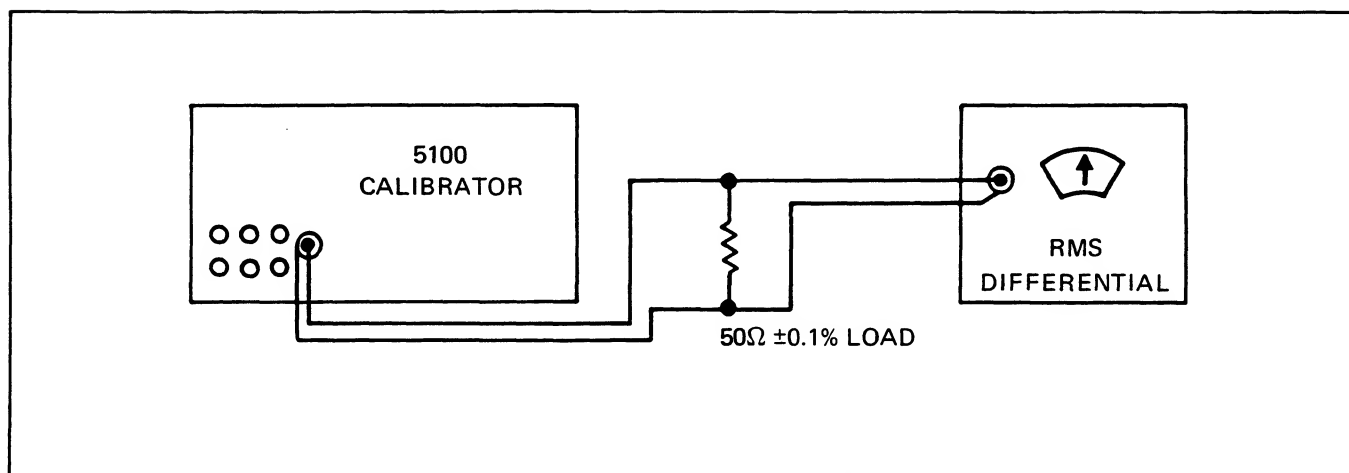

Figure 603-2. Wideband Accuracy Tests
2. Connect the equipment as shown in Figure 603-2.